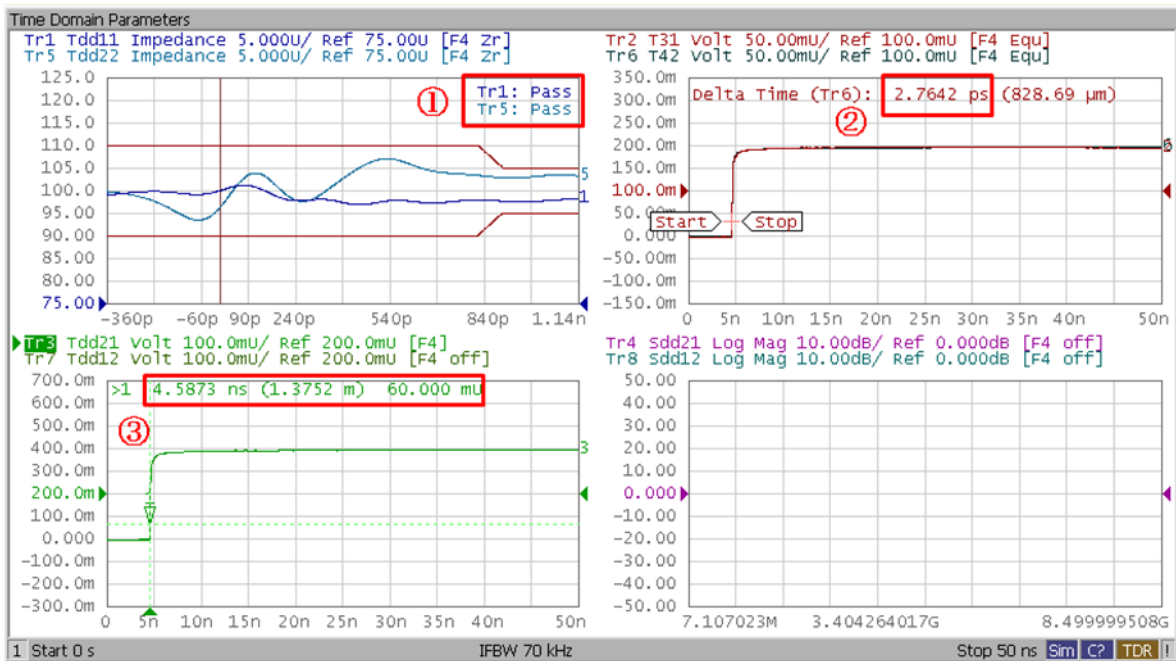

Figure 5-3: Time Domain Measurement Example
Read Pass/Fail signs on Trace 1 and Trace 5. (item 1 in Figure 5-3)
Read the delta time between Trace 2 and Trace 6 (item 2 in Figure 5-3).
6. Read the propagation delay (item 3 in Figure 5-3), and write it down.